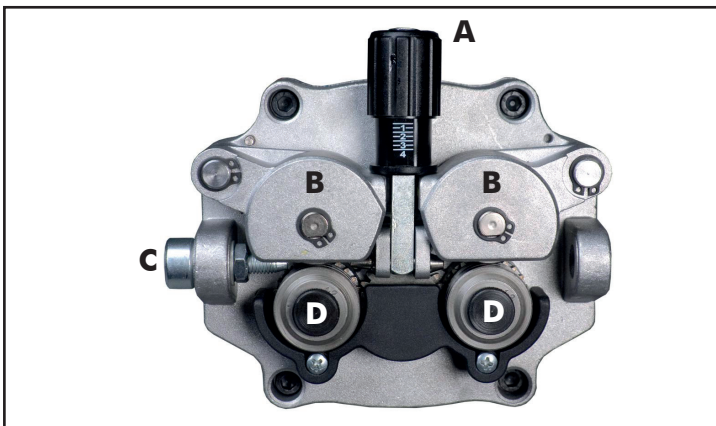

Figure 3 - Wire Feeding Motor
- Loosen and lower the plastic knob (A) (Figure 3). Open the pressure arm (B) of the feeder. (Extract the wire from the torch liner if some wire is left into the torch).
- When the wire is disconnected, grasp it with pliers so that it cannot exit from the spool. If necessary, straighten it before inserting it in the wire input guide (C). Insert the wire on the lower roll (D) and in the torch liner.